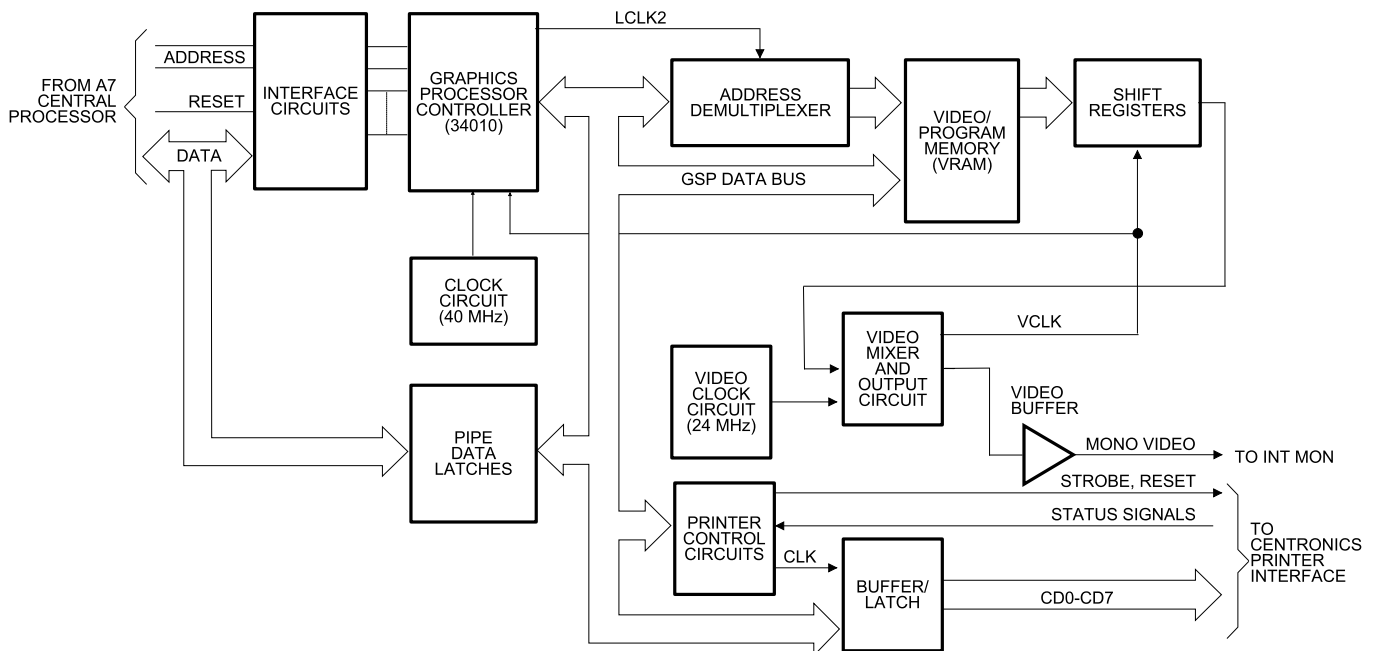

Figure 5-3. Block Diagram of A8 Graphics System Processor PCB
The Graphic System Processor (GSP) circuits are located on the A8 PCB (Figure 5-3). These circuits comprise an intelligent subsystem that is loosely controlled by the A7 PCB Central Processor. It produces the video signals for the internal CRT monitor screen display. It also produces the data and control signals for the Centronics printer interface. There are no adjustments on this PCB.
circuits and printer interface circuits via the internal GSP Data Bus (Figure 5-3).
- Data “Pipe” — two latches form a data pipe that allows direct communication from the A7 central processor to/from the GSP processor via the GSP Data Bus (Figure 5-3).
The GSP control program causes the GSP controller to wait for instructions and data that are sent to it from the central processor via the pipe interface (Figure 5-3). The commands used by the central processor to control the GSP are high level commands such as **draw line** and **write text**. The GSP controller translates these commands into primitive instructions which it can directly execute. It then performs the necessary sub-tasks to produce the desired results.
The GSP processor sends formatted printer output data and control signals to the printer interface circuits via the GSP data bus. The printer interface controller chip provides the data strobe that clocks the output data from the GSP bus into the data buffer/latch (Figure 5-3). It also provides the LSTB (strobe) and PRINTER RESET signals to the printer. Along with associated data latch circuits, it receives the printer status signals and sends them to the GSP controller via the GSP bus.